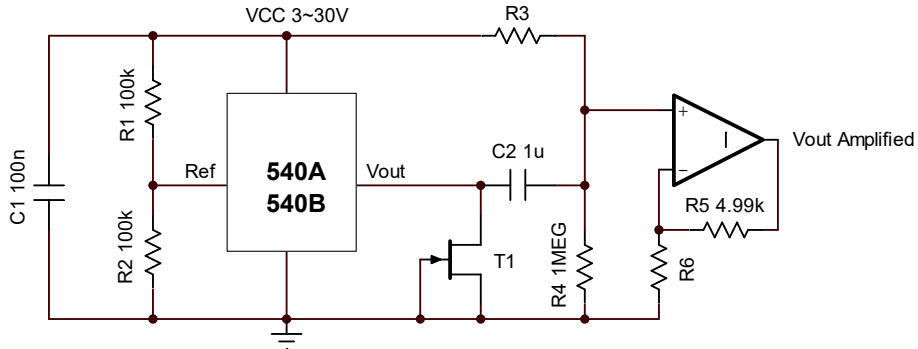

Figure 9 Typical circuit with amplifier
**Figure 9** is the typical application with amplifier.
If the ADC has low input impedance, which require an operational amplifier to buffer the signal. See **figure 9**. Operational amplifier also be used to amplify signal to match input range of ADC. To achieve better performance, low noise operational amplifier is proposed, e.g. noise density below  $10\text{nV}/\sqrt{\text{Hz}}$ .